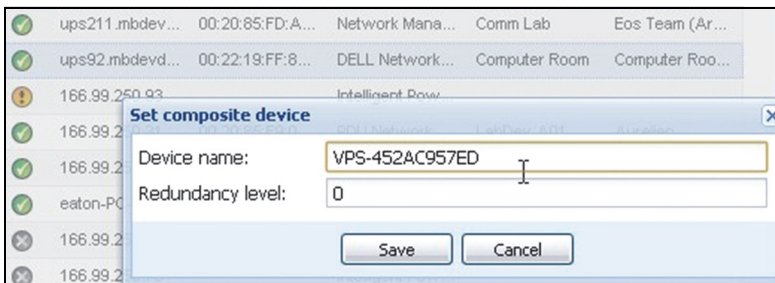

Figure 83. Set Composite Device Dialog Box
- 4 In the dialog box, specify a device name, redundancy mode, and level (see Figure 83):